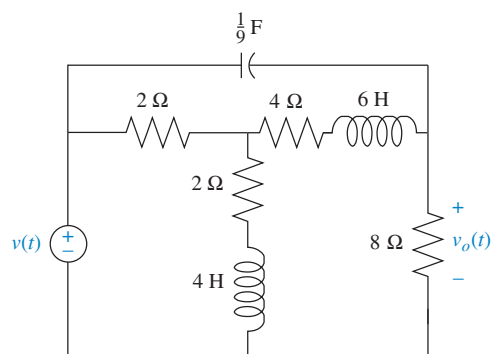

FIGURE P2.6
21. a. Write, but do not solve, the mesh and nodal equations for the network of Figure P2.6. [Section: 2.4]